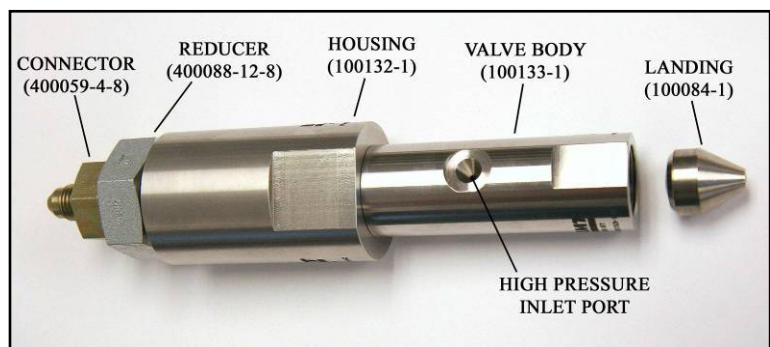

FIGURE 11
- Note:** Visually make sure the seal assembly is installed past the high-pressure inlet port on the Valve Body. **See Figure 11.**
27. Apply a small amount of Blue Goop to the Landing (100084-1). Drop the Landing into the Valve Body (100133-1), with the large tapered end facing out. **See Figure 11.**